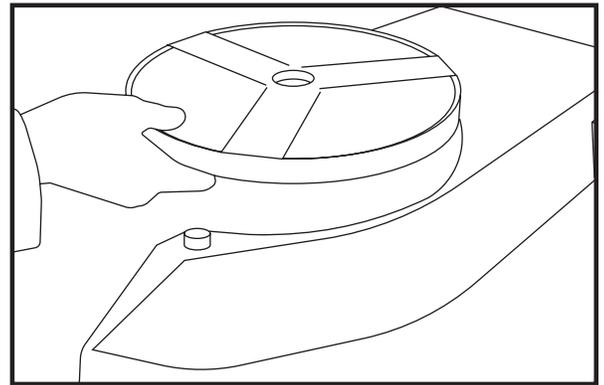

Fig. 2
2. Turn the disc counterclockwise (Fig. 2) and cover the cutting edge with appropriate material (rubber, fabric, etc).